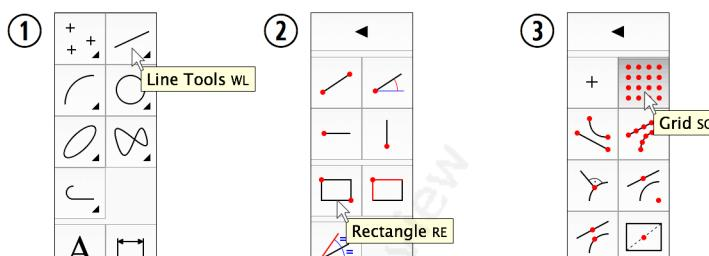

Figure 2-3: Choosing the CAD tools for drawing rectangles and activating the *Snap to grid* tool.
4. Move your mouse cursor to the line button as shown in Figure 2-3 at the left (1). Click the left mouse button to show the line tools (2).
5. Click the button with a rectangle on it as shown in Figure 2-3 (2). QCAD now knows that you intend to draw a rectangle and shows the CAD toolbar with the snap tools.
6. Click the button with a grid on it as shown in Figure 2-3 (3).